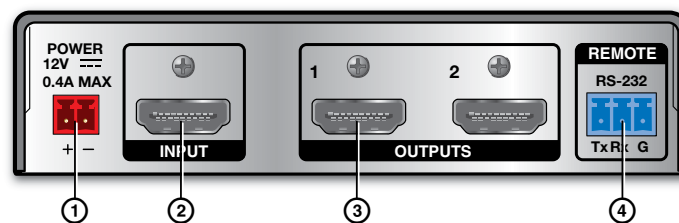
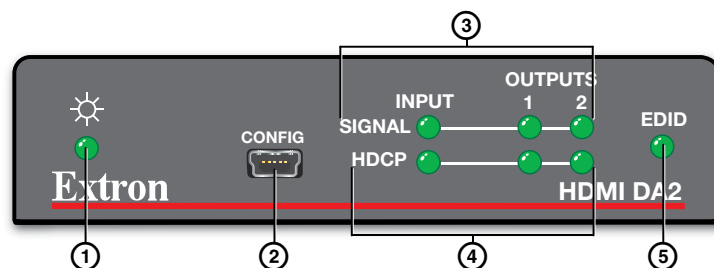

Figure 2. HDMI DA2 Rear Panel
Figure 7. HDMI DA2 Front Panel
Use a HDMI cable to connect the input source to the female HDMI socket on the rear panel (② in figure 2).
Use a HDMI cable to connect up to two output displays to the female HDMI sockets on the rear panel (③ in figure 2 on page 3).
The computer connects to either the rear panel 3-pole RS-232 port (④ in figure 2 on page 3) or the front panel USB port (② in figure 7 on page 9) of the distribution amplifier.
The mini Type B USB port is located on the HDMI DA2 front panel (② in figure 7 on page 9). It can be used to connect the distribution amplifier to a host computer to update firmware or for configuration using SIS commands.